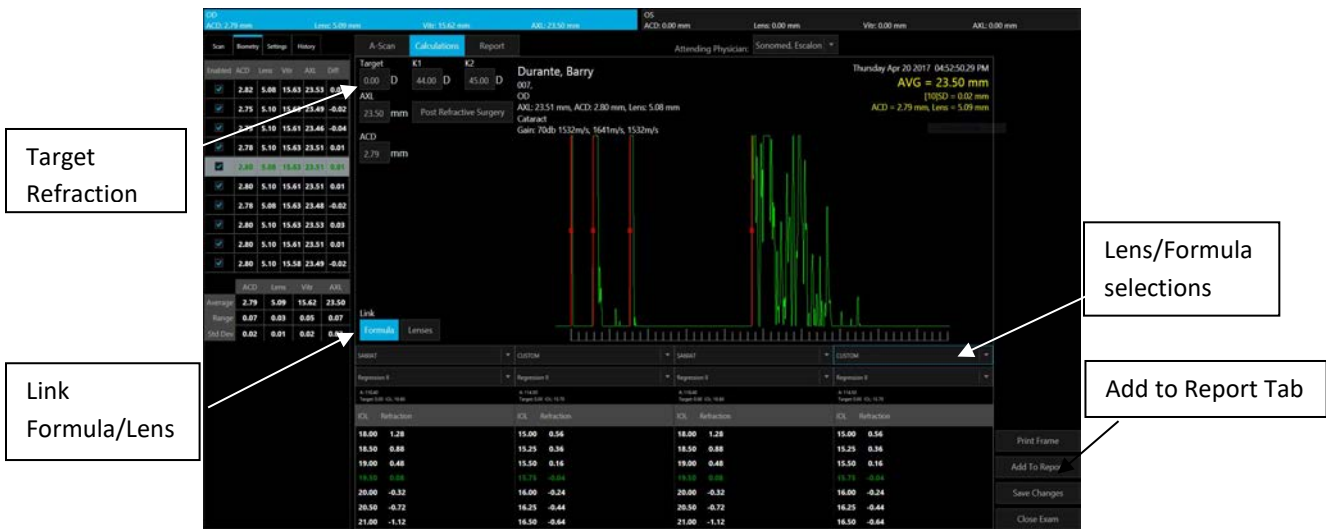

Figure 28: IOL Calculations
Once the user has reviewed the scans/data and is satisfied with the results, the **<CALCULATION>** tab, located at the top of the exam mode display screen should be selected (*Figure 28*). In order for calculations to appear, ALL USER DATA MUST ALREADY BE ENTERED VIA THE CONFIGURE MENU. If this was not done previously all lens and preferred IOL formula selection should be made before proceeding to IOL calculations. [See Configuring System on page 5].
- ⑥ Once all values are approved and accepted, the user should select the **<ADD TO REPORT>** tab located at the bottom right of the display. (*Figure 28*)
- ⑦ If the fellow eye is also to be measured and included onto the report, the user should select either the OD or OS tab at the top of the display and repeat the measurement/calculation steps as described above.
- ⑧ Once the eye(s) is measured, calculations performed and “ADDED TO REPORT” the **<REPORT>** tab located at the top of the display should be selected.